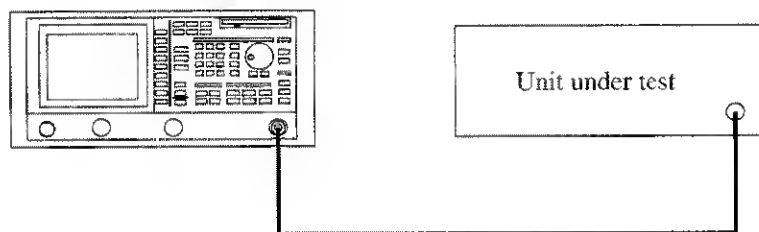

Figure 2-74 Setup for Measuring the Harmonic Distortion
1. Connect the unit under test as shown in Figure 2-74.